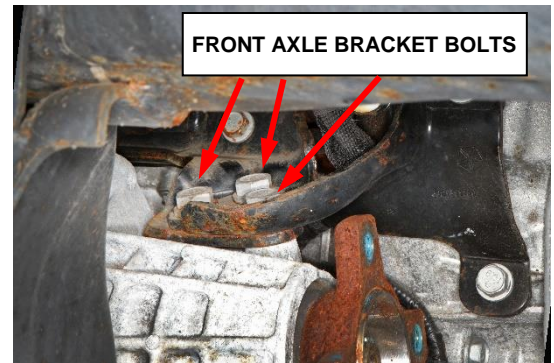

Figure 18 – Bracket at Front Axle
39. Remove the five bolts retaining front axle pinion housing to transmission bracket. Note that the top bolt is longer as it passes through two brackets (Figures 18 and 19).